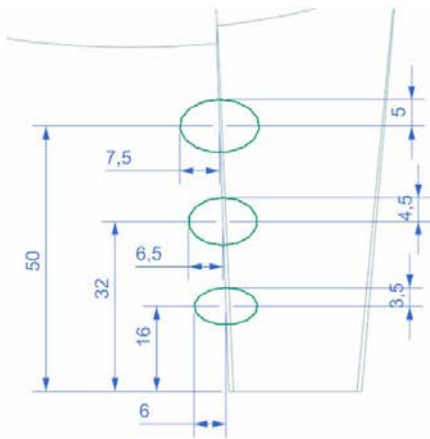

Figure 11-103 Sketch created for extruding the surface
and then trim the unwanted surfaces, refer to Figures 11-103 through 11-107.
2. Create a sketch for extruding the surface, as shown in Figure 11-103.